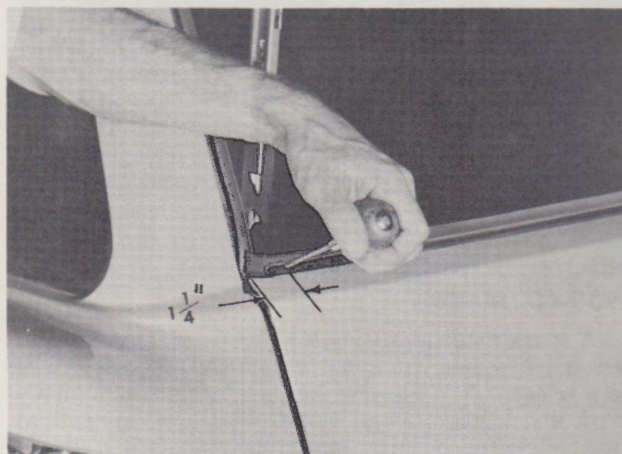

FIG. 7
2. Punch or drill a 7/64" hole thru the rubber weatherstrip and thru the outer panel of the tail gate channel at the lower intersection of the vertical and horizontal section of the outer panel 1 1/4" from the outer end of the gate. (See Fig. 7).